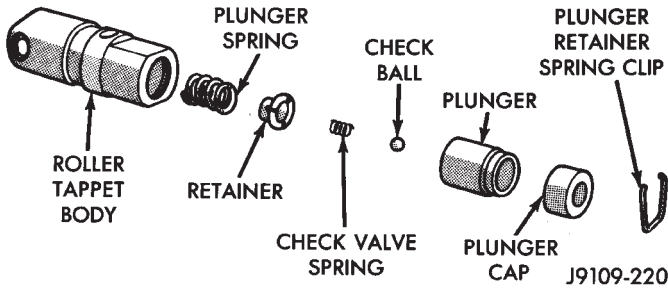

Fig. 27 Hydraulic Roller Tappet Assembly
DISASSEMBLY (FIG. 27)
(1) Clean all tappet parts in a solvent that will remove all varnish and carbon.
(2) Replace tappets that are unfit for further service with new assemblies.
(3) If plunger shows signs of scoring or wear, valve is pitted, or valve seat on end of plunger indicates any condition that would prevent valve from seating, install a new tappet assembly.
(4) Assemble tappets (Fig. 27).